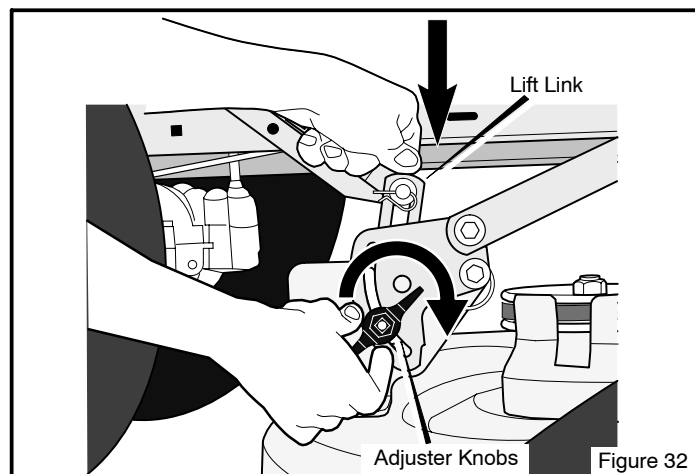

Figure 32
6. Loosen the left and right **adjuster knobs** (Figure 32). Push down on each side of the mower housing. Make sure both sides of the mower housing are setting on a flat surface. Also, make sure the lift links are loose and can easily move up or down.
7. Push down on the **lift links** and tighten the left and right **adjuster knobs** (Figure 32). Make sure the **adjuster knobs** are tight. If necessary, use a wrench to tighten the **adjuster knobs**. Tighten to a torque of 10 foot pounds (13,5 N-m).